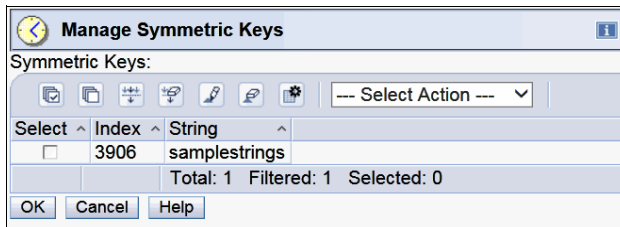

Figure 8-16 Symmetric Key list
6. The key is displayed in the Manage Symmetric Keys window (see Figure 8-16). You can enter more key data in this window by repeating the previous steps. Click **OK** to proceed if no other keys are needed.